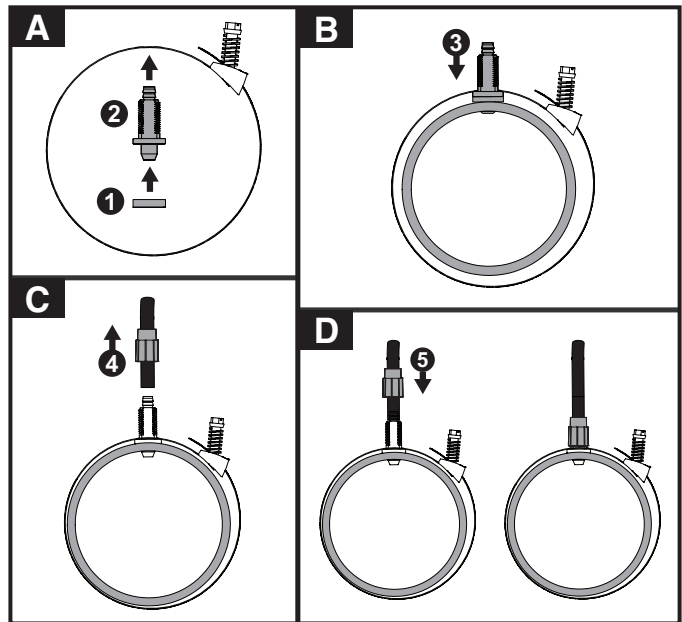

Figure 3
10. Install a Gasket (1) onto the non-threaded end of a Tube Fitting (2) and insert the fitting into the hole in the clamp. See A **Figure 3**.
11. Wrap the clamp around the plumbing, insert the Tube Fitting (3) into the plumbing and tighten the clamp onto the plumbing with a flathead screwdriver. See B **Figure 3**.
12. Place a Fitting Nut (4) onto the IN tubing. See C **Figure 3**.
13. Push the tubing onto the barbed end of fitting and hand tighten the Fitting Nut (5). See D **Figure 3**.